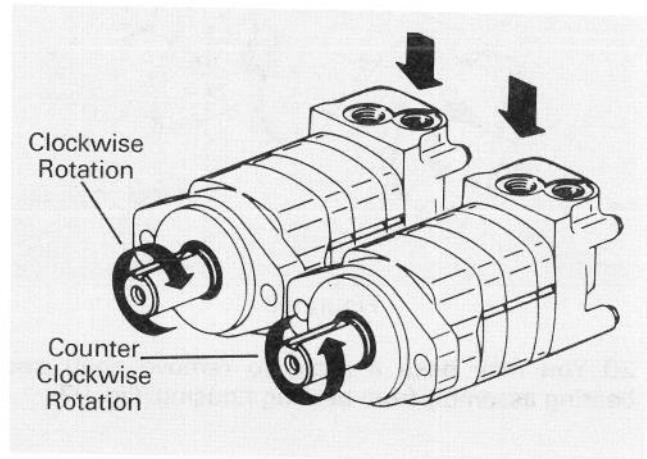

Figure 101
**Timing Step #3** — Locate any one of the side openings of the valve and align this opening with the open slot of the valve plate that is in line with the largest open pocket of the Geroler. Install the valve by rotating it clockwise until the spline teeth engage (1/2 spline tooth). This will provide the proper rotation when pressurized as shown in Fig. 101.